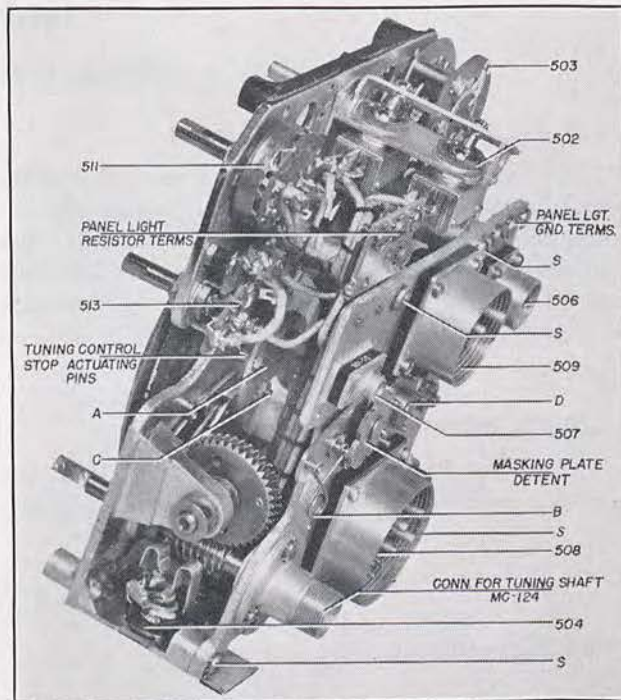

FIGURE 46—RADIO CONTROL BOX BC-226-A OR BC-351-A, REAR RIGHT VIEW, COVER REMOVED
- a—Scratch a reference line on the hub of the detent wheel and the end of the shaft to insure correct assembly. See D, Figure 46.
- 1—Loose Masking Plate. The probable cause of a loose masking plate that does not position properly is a broken or disconnected detent spring. Remove the radio control box from the aircraft and replace the spring being sure that, when it is in place, as shown at B, Figure 46, the notched disc is forced against the detent wheel.
- 2—Tuning Control Stop Adjustment. When properly adjusted, the tuning dial should stop at 195 kc. and should require $90\frac{1}{2}$ revolutions to reach the stop at the high-frequency end. The low frequency or counterclockwise stop should never allow the dial to rotate past the 195 kc. mark, because the tuning capacitor would act as a stop with consequent danger of damage. In order to reset the tuning stops, remove the parts from the radio control box case in accordance with par. 4.2.4.3. Rotate the tuning control approximately 30 turns from the counterclockwise stop to make the adjustable eccentric stop pins accessible from the left hand side of the unit. Loosen the nut on A, Figure 46 for adjustment of the counterclockwise stop and turn the eccentric pin by means of the integral hexagonal nut. Tighten the first nut and rotate the tuning knob to the stop and check the dial indication. Repeat until the 195 kc. mark lines up with the fiducial mark. Adjust C similarly so that the clockwise stop is $90\frac{1}{2}$ turns from the counterclockwise stop.